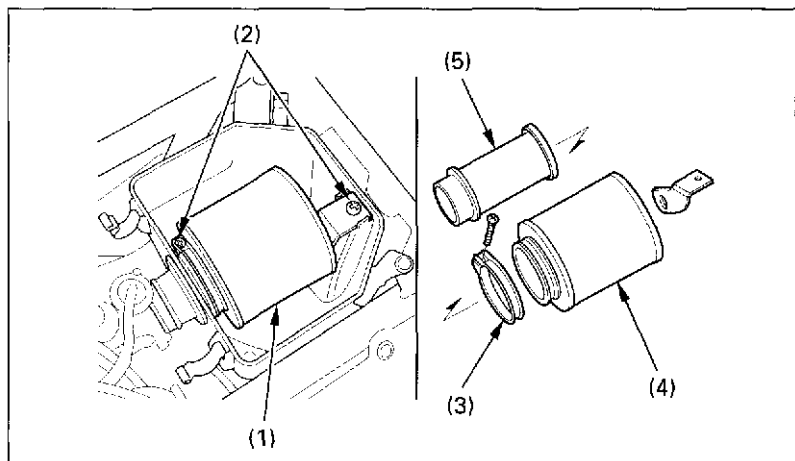

Fig. 4-5 (1) Air cleaner assembly
3. Remove the screws (2) (Fig. 4-5) and remove the air cleaner assembly (1) from the air cleaner housing.
4. Unscrew the clamp (3).
5. Remove the air cleaner (4) from the air cleaner body (5).